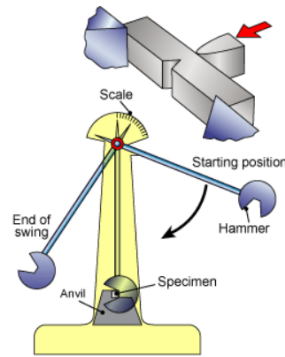

Fig.1. Charpy testing machine and specimen arrangement
- The Charpy impact test (also called v-notch test) is the most commonly used. It measures the energy needed to fracture a notched sample of material at specific temperature or series of temperatures. Method of measurement is illustrated in Fig. 1.